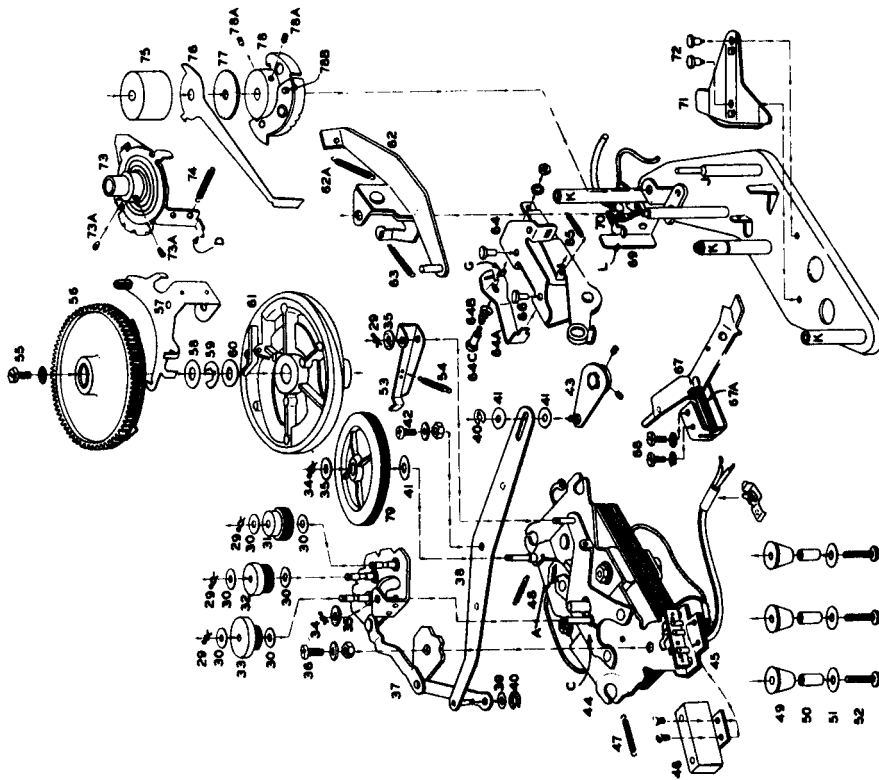

Fig. 8
1. Lip (D of 73, Fig. 8) should engage G of 64A by only about $\frac{3}{32}$ ". If it is difficult for G to clear D, the movement of the pickup arm will not be properly controlled and erratic "Indexing" will result. Bend D, if necessary, to permit, smooth, easy separation of these two parts.